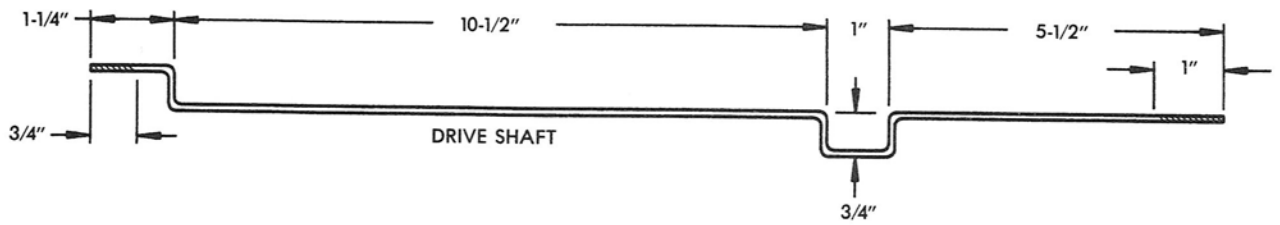

Figure 4-40. Special drive shaft.
2. Make the special drive shaft (Fig. 4-40). Thread one end 3/4 in. with a 6/32 die. Then at 1 in. make a 3/4 in. cam. This will be the rear cam for the rooster. **Before proceeding further,** place two 1 in. pieces of 3/16 in. tubing on the shaft; this cannot be done later after more bends are made. At 10-1/2 in. from the first cam, make another 3/4 in. cam for the chicken. As you continue, make sure these bends will fit into the cut-out sections. Cut the drive shaft 2 in. in front of the platform, then thread the end 1 in.